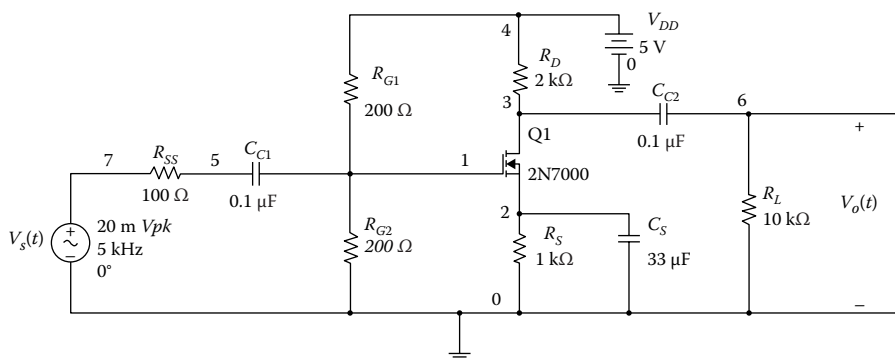

FIGURE P7.14
Problem 7.14 Use the Analog Discovery board to determine (1) the magnitude response of the circuit shown in Figure P7.14, (2) midband gain, (3) low cut-off frequency, (4) high cut-off frequency, and (5) bandwidth of the amplifier.